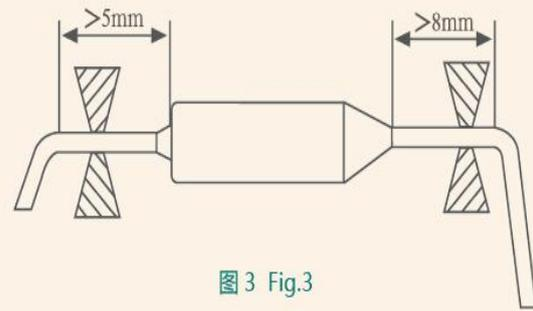

图3 Fig.3
- 环氧树脂封装端的引出线若需折弯使用，请在距离环氧树脂部位 8mm 以外进行，以免损坏绝缘子，另一端的引出线的折弯，在距离外壳 5mm 以外进行。折弯时，请一边固定引出线（环氧树脂部位不施加力）一边折弯。（见图 3）
- When bending leads, secure the leadwire near the body of TCO, at least 8mm should be maintained between epoxy seals and lead bends and at least 5mm for the lead on the other side. (see Fig.3)